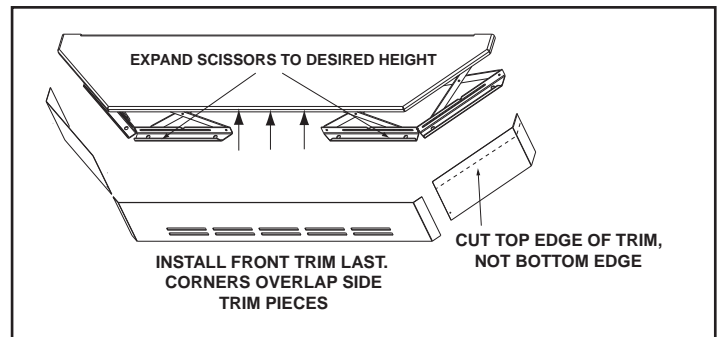

Figure 19.2
3. Measure front and side trims to required height to cover scissors and mark pieces for cutting. Cut excess material from **top** of trim’s edge, not bottom. This edge will be sharp; wear gloves to prevent injury to your hands. The cut edge fits under lip of top trim, so it allows for some variance in your straight edge. **Figure 19.2.**